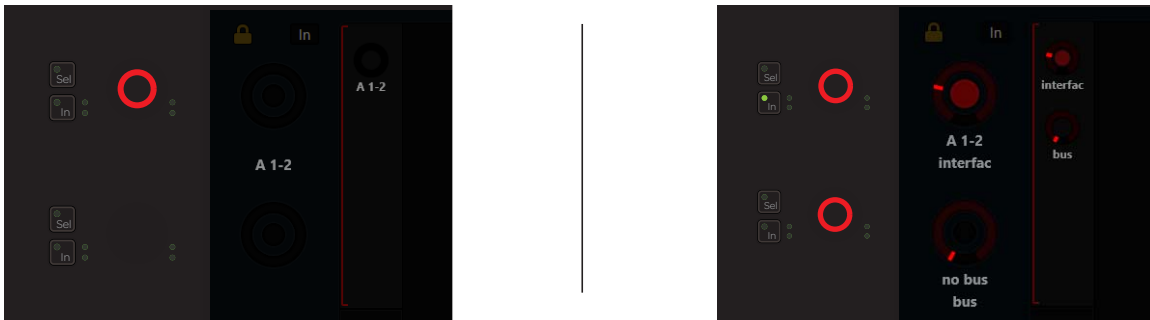

Figure 62. Top level Input knob set (at left) and interface/bus knob set (at right)
- 2 Navigate to the Home screen and tap to select **Input** in the Function scroller. The upper left knob shows the currently assigned input source. (See Figure 62, left image.)
- To select a different source, press the upper left knob; the two upper left knobs display **interface** and **bus** sources. (See Figure 62, right image.) Rotate the corresponding knob until the desired source is shown, then press that knob's **In** switch.